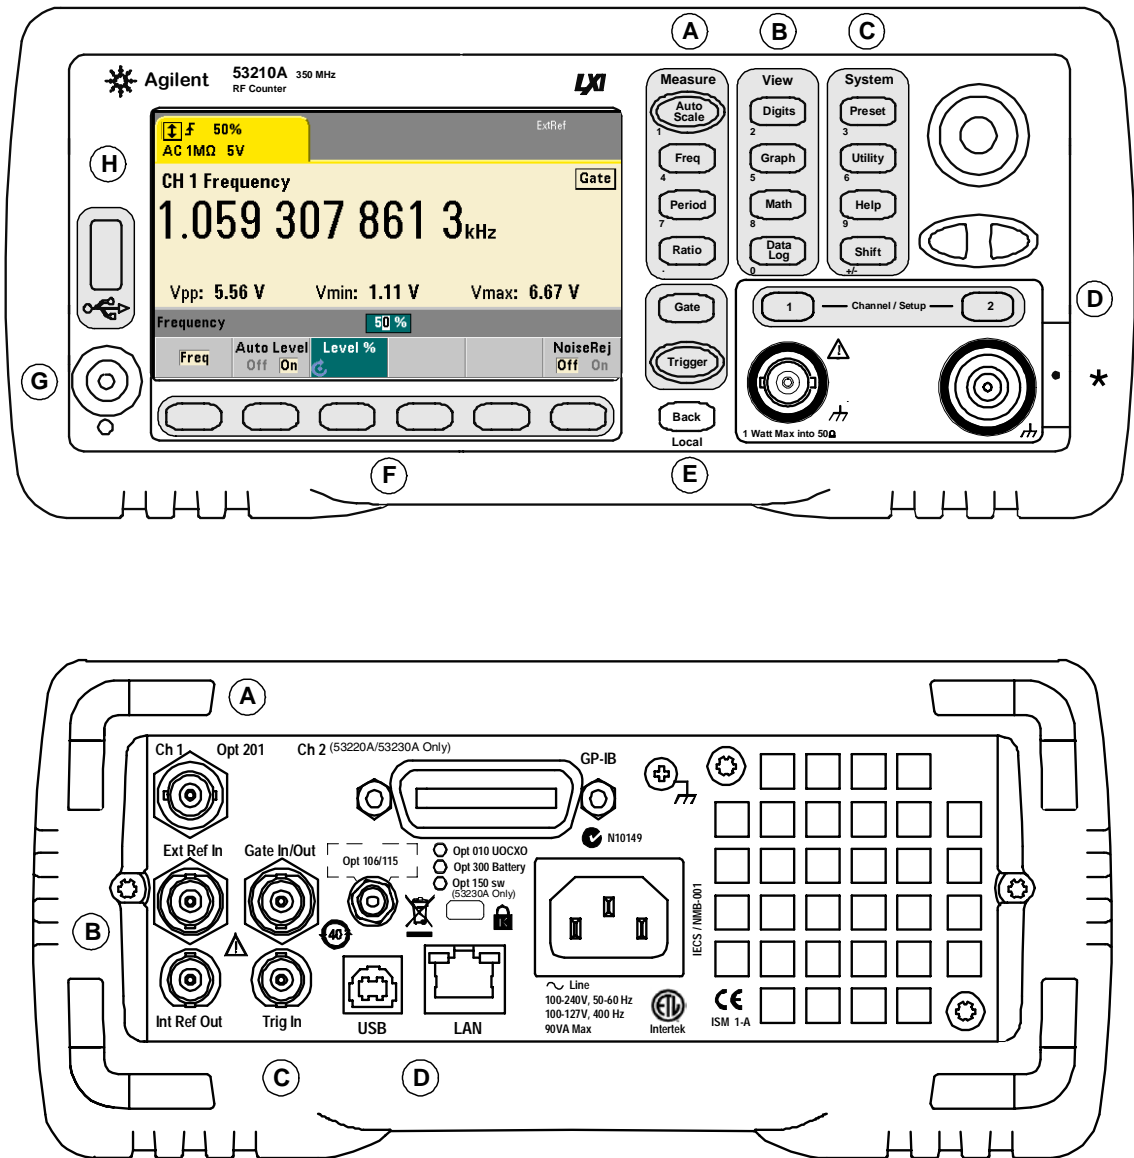

Figure 1-1. The 53210A Universal Frequency Counter/Timer.
Figure 1-1 shows the front and rear panels of the Agilent 53210A 350 MHz RF Counter.
**D. Channel Keys** - select the input channel and displays the soft key menu used to configure the input signal path. Note that Figure 1-1 includes Channel 3 Option 106 / 115. Signal path configuration is covered in **Chapter 4**.
The 53210A rear panel shown in Figure 1-1 includes product Option 201 (parallel rear panel input) and GPIB interface. The rear panel terminals are briefly described below.